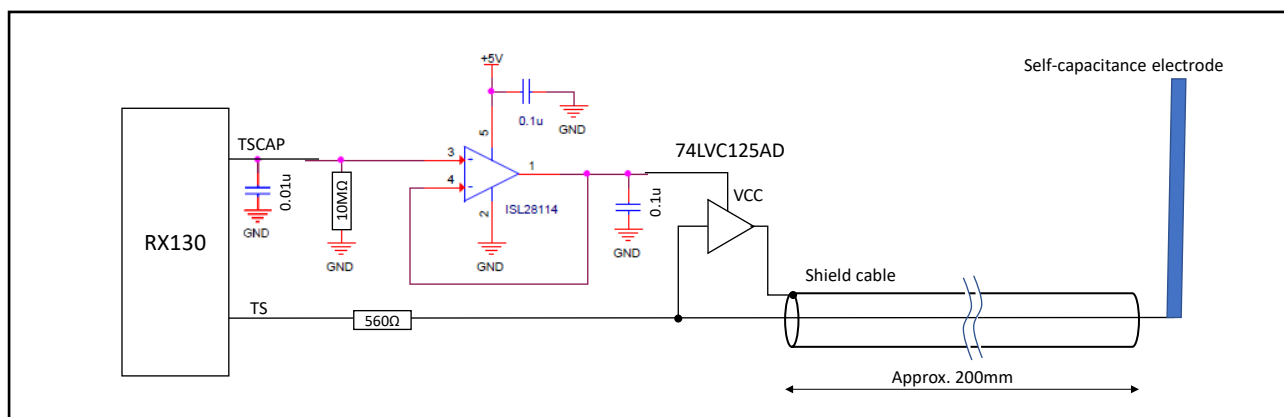

Figure 5-2 Electrode Signal Shield
In this demo set, a coaxial cable is used for shielding in order to suppress the effects of changes in harness routing. Specifically, as shown in Figure 5-2, the electrode signal is shielded by a signal with the same voltage and phase as the electrode signal.
*Note: The TSCAP port on this circuit is the same as the TSCAP port shown in Figure 5-2.